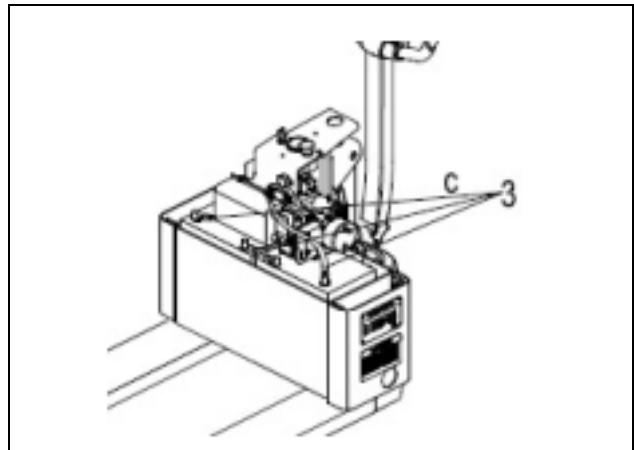

Figure 3-4 Disconnect Battery Cables
- c. Tag and disconnect the three battery cables (Figure 3-4).